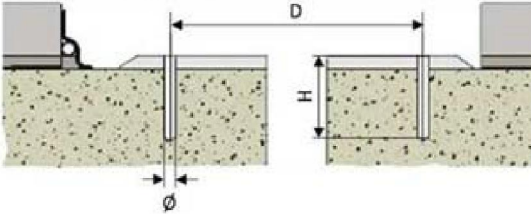

Figure 6: Anchorages sealing preparation
- Drill the holes to the required depth and diameter as per manufacturer's recommendation (Figure 6).